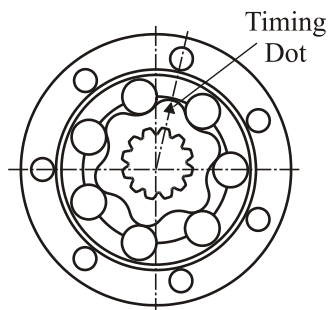

Fig.14
13. Orient the roll-gerotor set acc.to Fig.14. Mark a timing dot on a star point of rotor placed between two rolls.